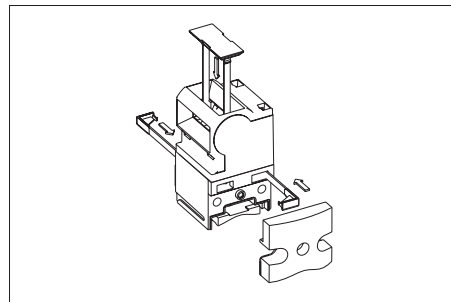

Fig. 2: Fitting the locking pins and the slot cover
- ▶ Fit locking pins for protection against twisting (Figure 2). It is then not possible to change the actuating direction again.
- ▶ Cover the unused actuating slot with the enclosed slot cover (Figure 2).